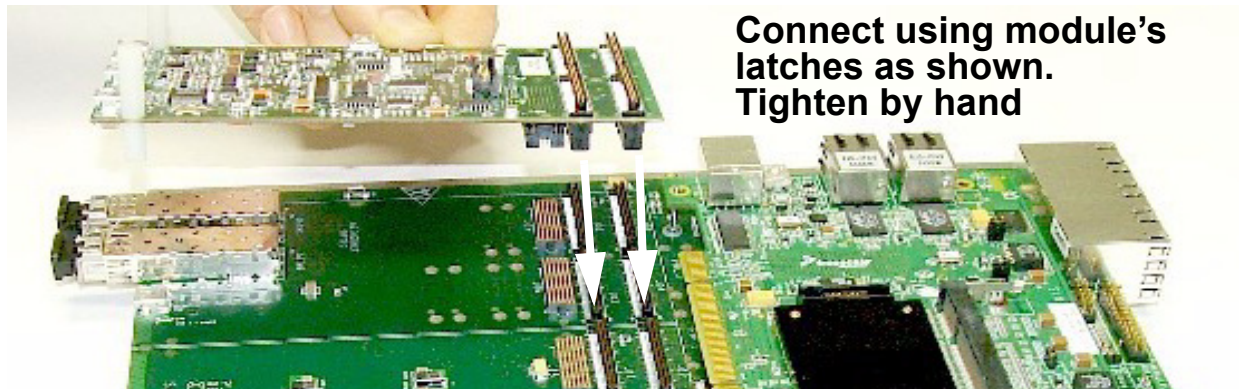
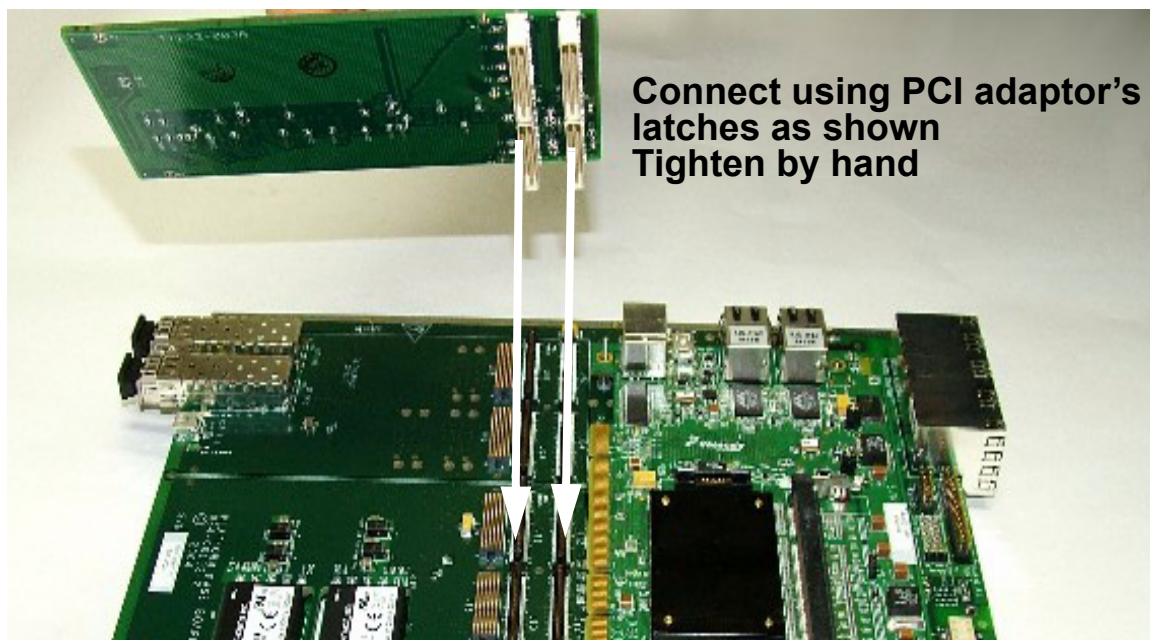
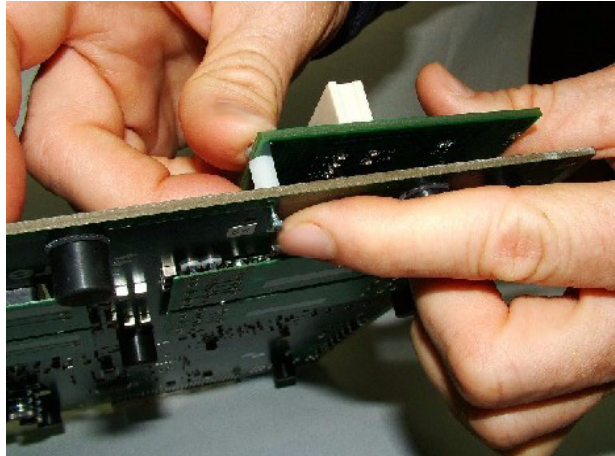
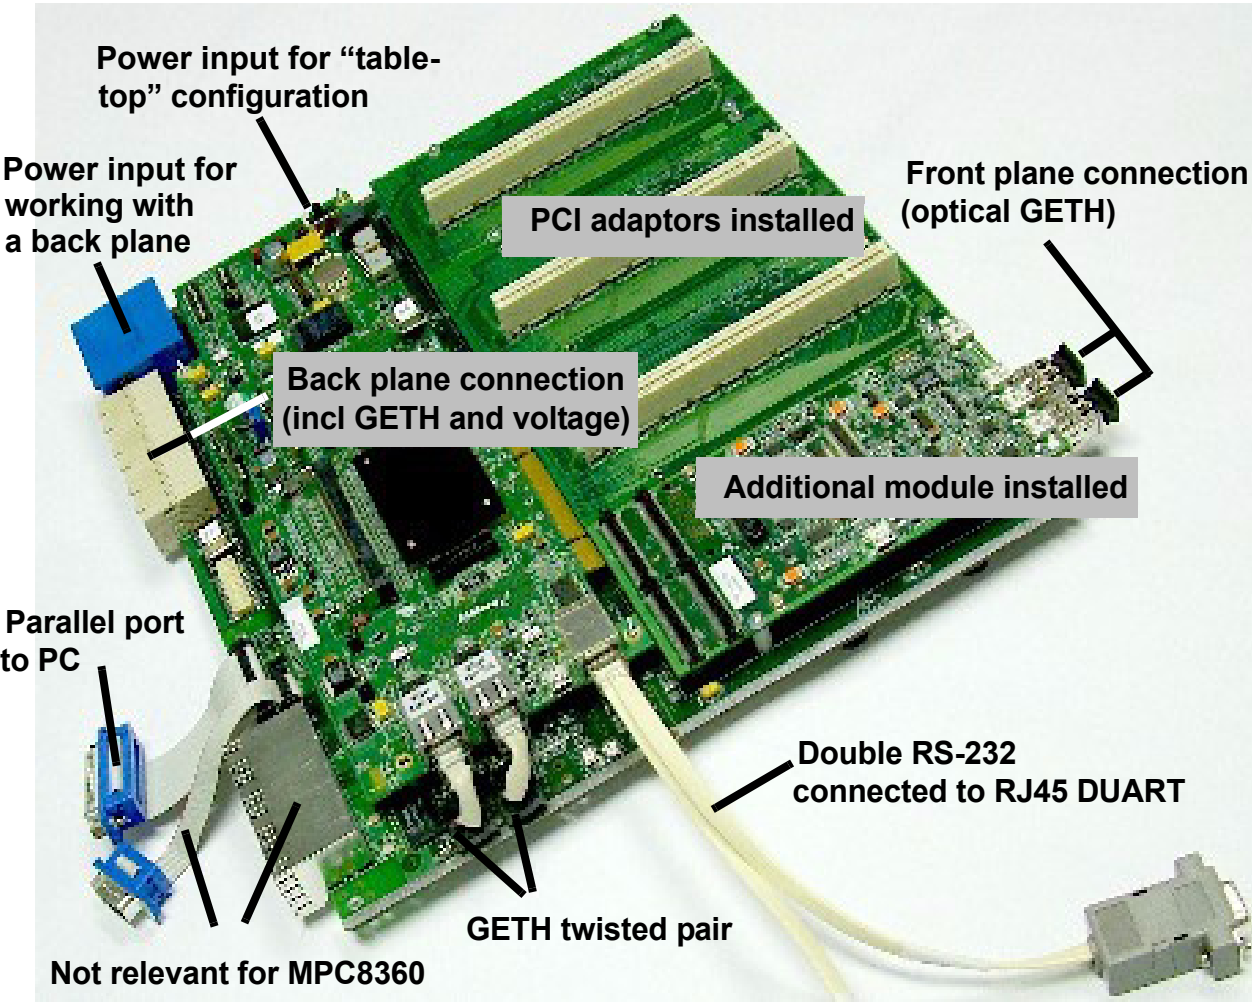

Figure 2-10. Connecting module card to PIB
Figure 2-11. Connecting PCI adaptor to PIB
Figure 2-12. Inserting spacers between PCI card and PIB
Figure 2-13. Fully Assembled Combined system: PIB, Processor Board, additional module, and PCI cards
8. If you wish to work with a module connected to a PCI adaptor, follow the illustrations in Figure 2-10, Figure 2-11, and Figure 2-12 to connect these items to the PIB.
9. The fully assembled PIB-Processor board is shown in Figure 2-13, which also shows the PIB external connections relevant when the MPC8360EA is used.
In Figure 2-13, three PCI adaptors and one additional module are shown installed on the PIB. The PCI cards are ready to receive any PCI-compatible board, including an 83xx Processor board, installed in this case in the same manner as they are in a PC. Using this system, these boards (up to three) function as agents, while the Processor board already installed functions as a host. This allows you to take advantage of the parallel processing capabilities of the 83xx line of products.
As an agent on the PIB: Insert PCI adaptor or adaptors into the PIB as shown in Figure 2-11 and Figure 2-12, then insert the Processor Board into an adaptor, using its PCI edge connector, as shown in Figure 2-13.